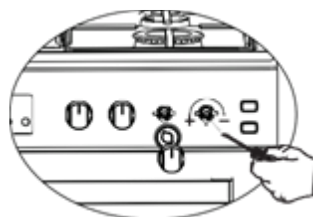

Figure 16
5. For the last control, bring the burner both to high-flame and reduced positions and check wether the flame is on or off. Depending on the type of gas tap used in your appliance the adjustment screw position may vary. To adjust your oven acc to the gas type, make the adjustment for reduced flame carefully by turnin with a small screwdriver as shown below on the screw in the middle of the gas cocks as well as nozzle changes (Fig 16 and 17).